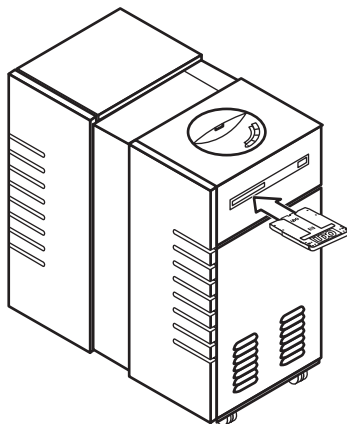

Figure 5: Loading media
2. Load UDO media into the drive by inserting the disk gently but firmly into the mailslot, shutter end first, and with the side you want to access facing up (A or B). See Figure 5.